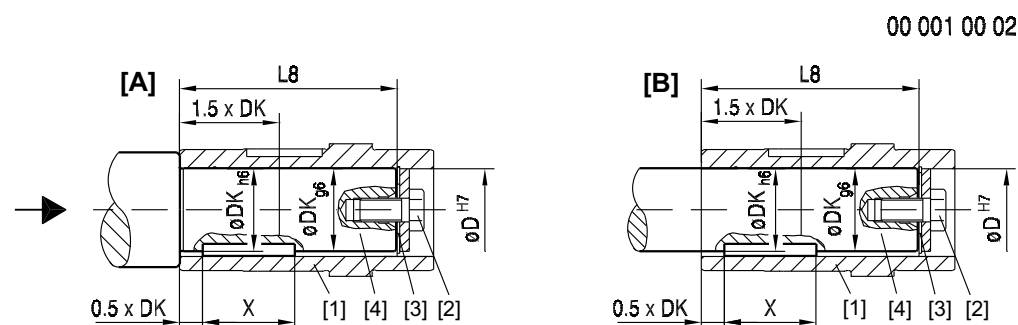

Figure 16: Customer shaft with contact shoulder (A) and without contact shoulder (B)
- Always use the supplied NOCO[®] fluid for assembly. The fluid prevents contact corrosion and facilitates subsequent disassembly. - The key dimension X is specified by the customers, but $X > DK$ must apply, see Figure 16.